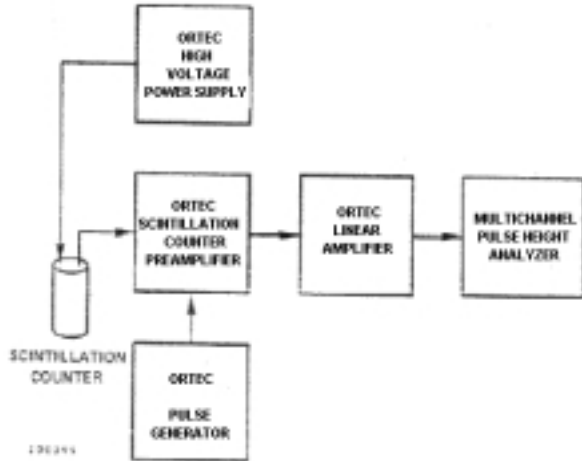

Fig. 16. Scintillation-Counter Gamma Spectroscopy System.
**SCINTILLATION-COUNTER GAMMA SPECTROSCOPY SYSTEMS** The ORTEC 575A can be used in scintillation-counter spectroscopy systems as shown in Fig. 16. The amplifier shaping time constants should be selected in the region of 0.5 to 1.5  $\mu$ s for NaI or plastic scintillators. For scintillators having longer decay times, longer time constants should be selected.